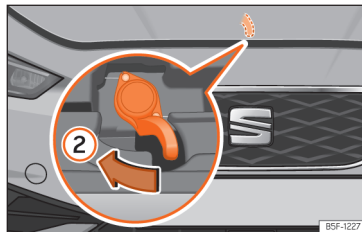

Fig. 219 Lever under the bonnet.
- To lift the bonnet, press towards the left on the lever located under the bonnet, in the centre »» **Fig. 219** ②. The fastening hooks are unlocked.